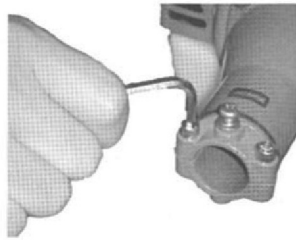

Figure 4
2. Use the 4mm allen wrench to loosen the tube clamp as shown in figure 4.